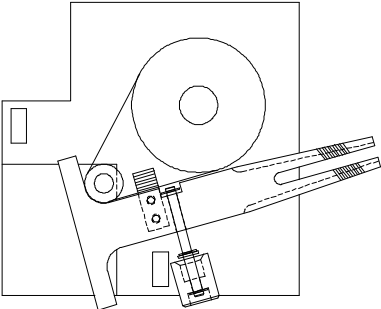

Figure 1
- b. Place the side of the belt tension adjustment aid flush along the length of the timing belt with the handle fitting between the two walls of the small pulley (see Figure 1).